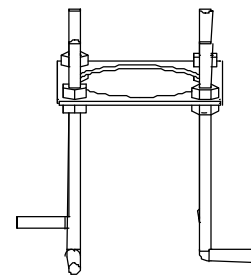

Fig3
- Prepare site. Get the anchor bolt carrier assembled as Fig 3 and use it to determine placement of anchor bolts in concrete.